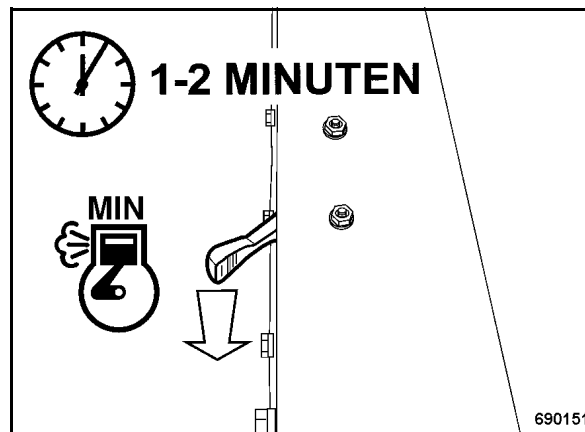

Fig. 22
- Set the throttle lever (Fig. 22) to position "MIN".